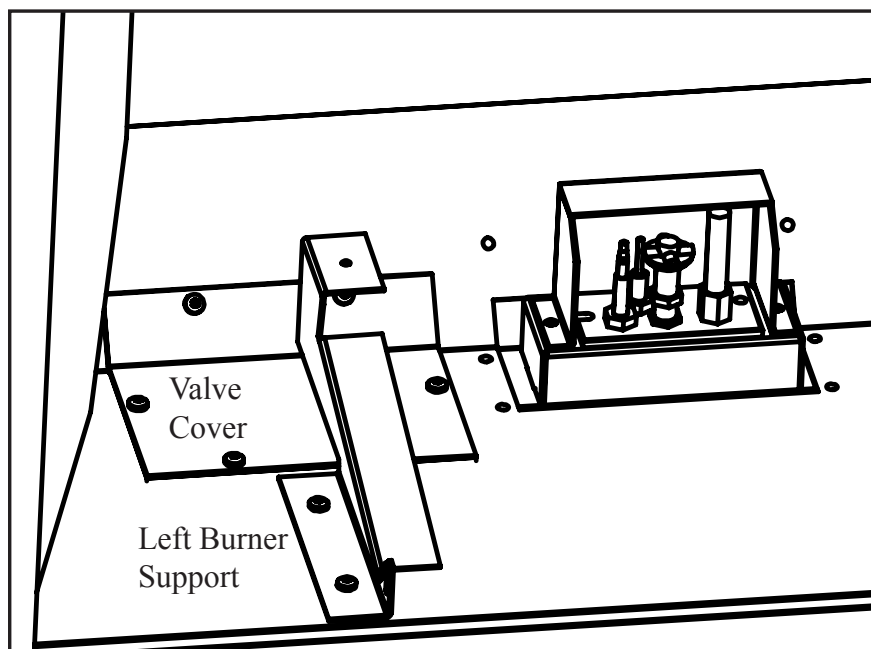

Figure 10: Valve Cover and Burner Support.
5. Then remove the six screws that hold the valve cover in place (pointed out in Figure 10).